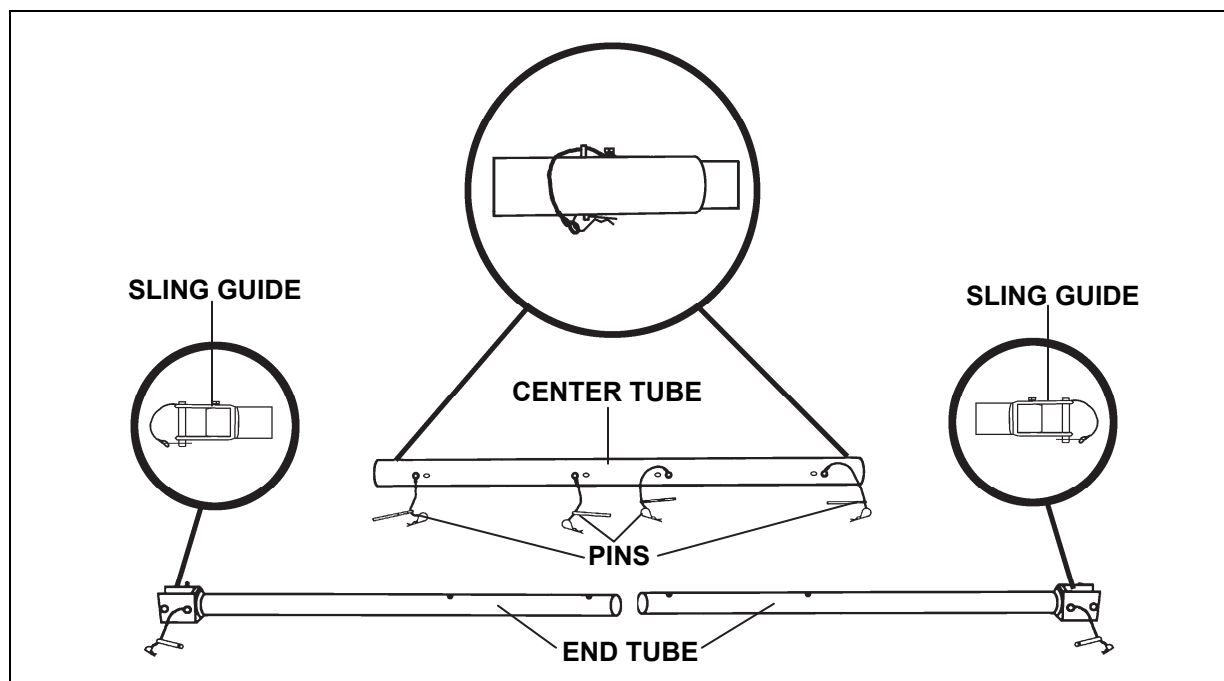

Figure 8-41. 15,000-Pound Spreader Bar (P/N 11-1-4703)
- 15,000-Pound Spreader Bar.** The 15,000-pound spreader bar (figure 8-41) is used to keep the sling legs from contacting or damaging the load during sling loading. The 15,000-pound spreader bar may be used on single-point, dual-point, or tandem loads but only when authorized in the rigging instructions for that load. The 15,000-pound spreader bar consists of three interlocking aluminum tubes with an overall length of 104-inches and a working length of 100-inches. The sling legs are attached to the 15,000-pound spreader bar by removing the sling guide pins, placing the sling legs in the sling guides, and reinserting the sling guide pins. The NSN and part number are listed in Appendix B.